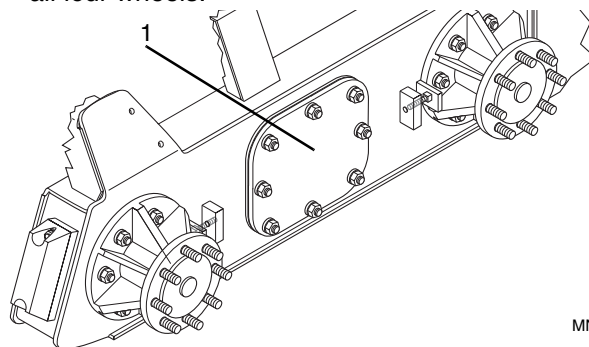

Figure 6-17 Drive Chain Tension Access
8. Clean the area around the access plate (Fig. 6-17, 1) and axle housings, and remove the access plates and gaskets from both sides of the vehicle.